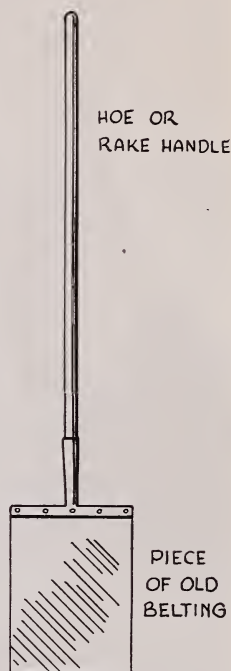

FIGURE 13.—
**Tools.**—Anyone who may have to fight a fire should keep a few fire-fighting tools in some handy place where they can always be found. Useful implements are a good hoe or rake to clean firebreaks, an ax for chopping down burning snags, a shovel to throw dirt on the fire, and a water bucket for wetting down smouldering embers. In the South many farmers make their own fire swatters by fastening a 10- by 18-inch piece of old belting to a hoe handle (fig. 13). Some use a large burlap bag or a pine top for this purpose. (Fire fighters should have plenty of drinking water available.)
3. Find its contents by the table on page 34. Suppose it is 13 inches in diameter at the small end and 16 feet long. Run down the left-hand column (diameter) to the figure 13. Move across to the 16-foot column. The figure there is the estimated number of board feet that can be sawed from the log, in this case, 81.